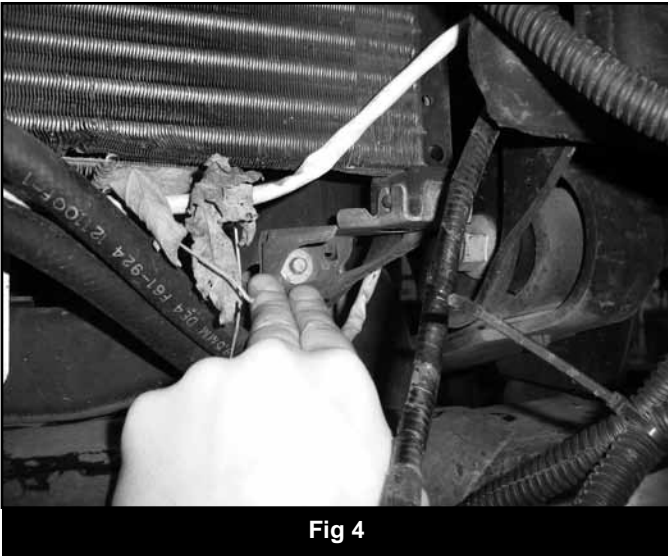
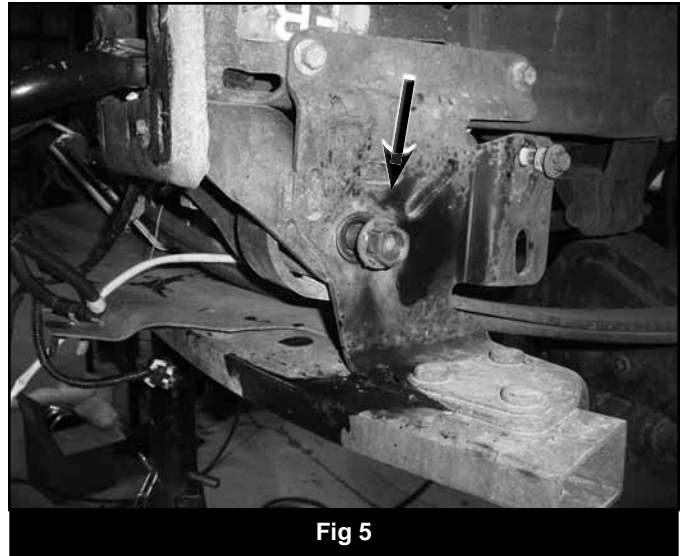

Fig 4
Fig 5
10. Loosen but do not remove all four leaf spring mounting bolts. On the front, the A/C condenser brackets will need to be removed to gain access to the bolt (Fig 4). Remove the brackets from the core support and save along with the mounting bolts. Note: The factory uses very strong Loctite on the leaf spring bolts. In most cases heat will be needed to loosen the nuts (Fig 5). Take extra care when heating the nuts and keep a fire extinguisher near by.